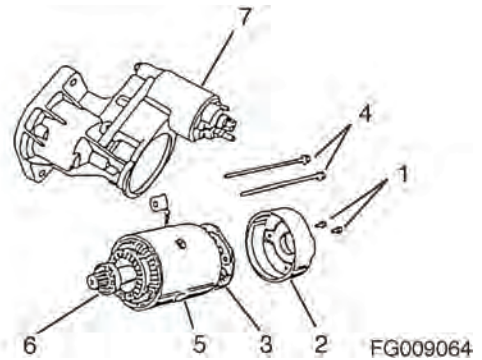

Figure 342
2. Remove the two M4 bolts (1, Figure 342) securing the rear cover (2, Figure 342) to the brush holder assembly (3, Figure 342).
3. Remove the two M5 through bolts (4, Figure 342). Separate the rear cover (2, Figure 342), field coil assembly (5, Figure 342) with the armature assembly (6, Figure 342) from the gear housing (7, Figure 342).